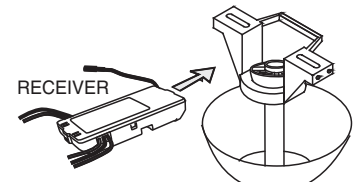

FIGURE 2
3. Lay the black antenna wire on top of the receiver, and put the receiver in the mounting bracket. (Fig. 2)
3. Coloque el cable de la antena de color negro en la parte superior del receptor e introduzca el receptor en el soporte. (Fig. 2)